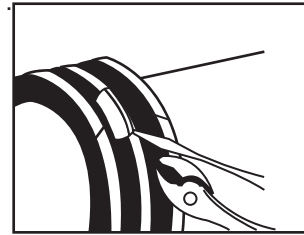

Figure 3
**12. Installation of split seal.** Position split seal into lower housing grooves. Position split at top of shaft. Thread tie-strap down thru large hole at one end of seal and up thru small hole on other half. With tie-head seated in the hole, draw tie across split, thru tie-head and pull tightly (Figure 3) so seal cannot rotate on shaft. Small gap should be present at split line once tight. Gap can be fixed with sealant to prevent leakage. Cut excess tie. If possible, rotate shaft slowly and position seal so it does not rub against housing grooves. At the same time apply grease to seal grooves.